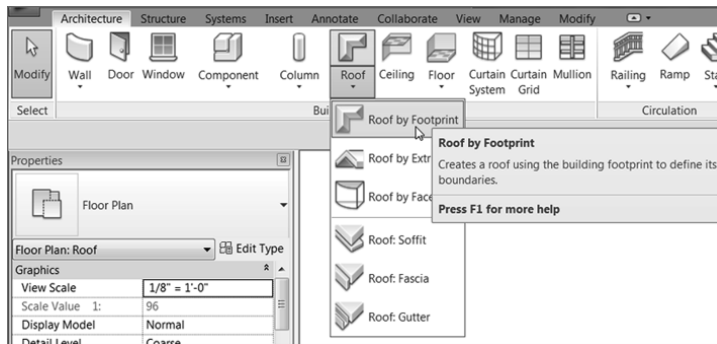

FIGURE 7.2: Clicking Roof By Footprint on the Architecture tab of the Design bar
8. On the Architecture tab, click Roof > Roof By Footprint, as shown in Figure 7.2.